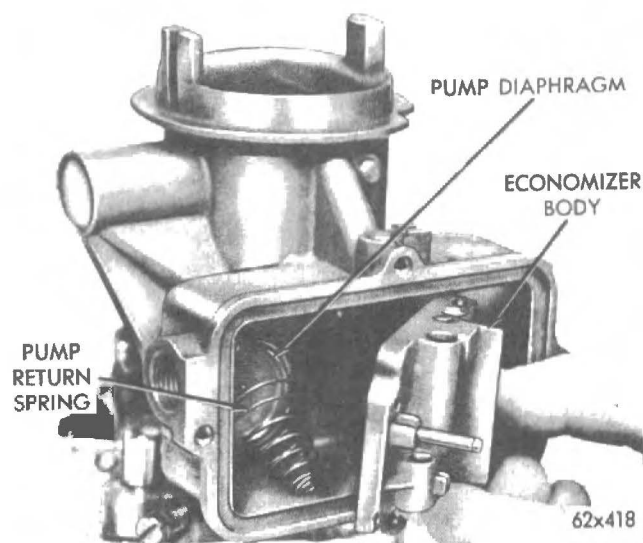

Fig. 15 - Removing or installing economizer body.
(7) Remove the screws that attach the economizer body and plugs, then remove the economizer body as shown in Fig. 15. Lift out the pump return spring.
(7) Turn carburettor with bowl opening up then position the main well and economizer body in the carburettor (Fig. 15). Install screws and tighten securely. Be sure the pump spring is correctly centred.